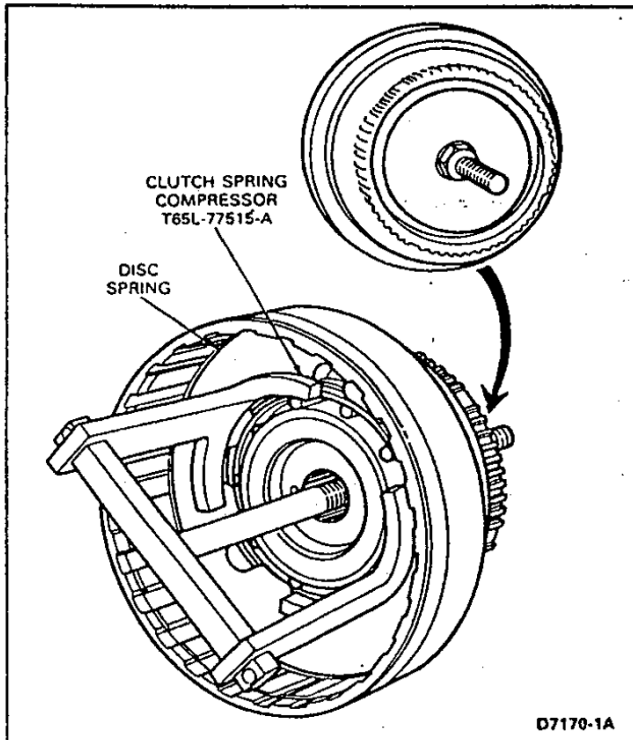

FIG. 49 Removing or Installing Disc Spring
3. Remove the snap ring (Fig. 49) that secures the disc spring in the clutch cylinder. Remove the disc spring and steel ring using Tool T65L-77515-A.
4. Make sure that the steel pressure ring is in the groove on the piston. **Position the disc spring in the cylinder with the dished face downward** Install the spring as shown in Fig. 49 so that the